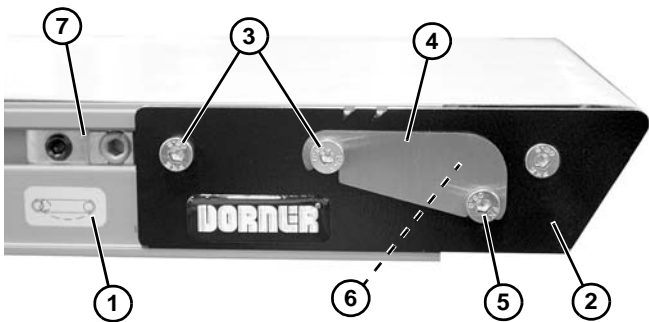

Figure 78
1. On tension end of the conveyor, identified with a  label (**Figure 78, item 1**), adjust head plate assembly (**Figure 78, item 2**):
- a. On both sides of conveyor, loosen fastening screws (**Figure 78, item 3**).
- b. If equipped with dust covers (**Figure 78, item 4**), loosen screw (**Figure 78, item 5**) and remove dust cover on both sides of conveyor. Tighten screw (**Figure 78, item 5**).
- c. Rotate pinion gear (**Figure 78, item 6**) to adjust head plate assembly.
3. After adjusting proper tensioning, tighten fastening screws (**Figure 78, item 3**) on both sides of conveyor to 60 in-lb (7 Nm).
4. If equipped, install dust covers (**Figure 78, item 4**).
5. If equipped with cam tracking assemblies (**Figure 78, item 7**) position against head plates and adjust belt tracking. Refer to “Conveyor Belt Tracking”, next section.